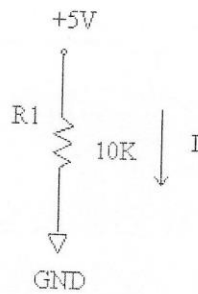

Figure 1.
1. **Before** building the circuit, using Ohm's Law, calculate the current through the 10K ohm resistor. This is your theoretical value. **Give your answer in amps (A), milliamps (mA), and microamps (uA).** Show your work to the right of Figure 1. (1A = 1,000mA = 1,000,000uA)
- b. Build the circuit in Figure 1 on the protoboard. With the multimeter set to measure DC volts, measure the voltage across the resistor.